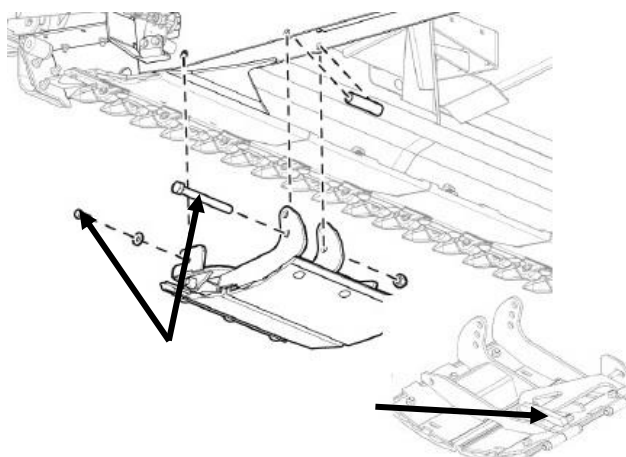

Figure 299
9. The skid shoe is secured in the rear by a 1/2" X 4.5" bolt and lock nut. Torque the nut to 75 ft.lbs. Figure 299